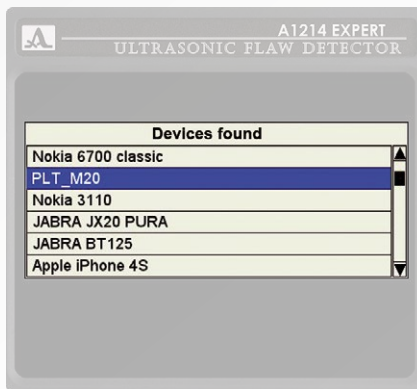

Figure 36
- a window listing found Bluetooth devices will be opened when the searching is completed (Figure 36).